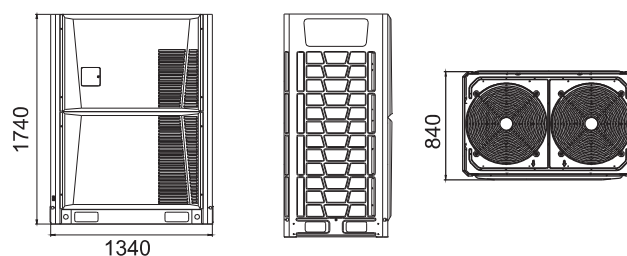

Fig.3.4 Shape4 (24HP)
1. The master machine shall be installed on a firm cement ground or concrete foundation. The concrete foundation is constructed as per Fig. 3.4, or be constructed with field measuring.